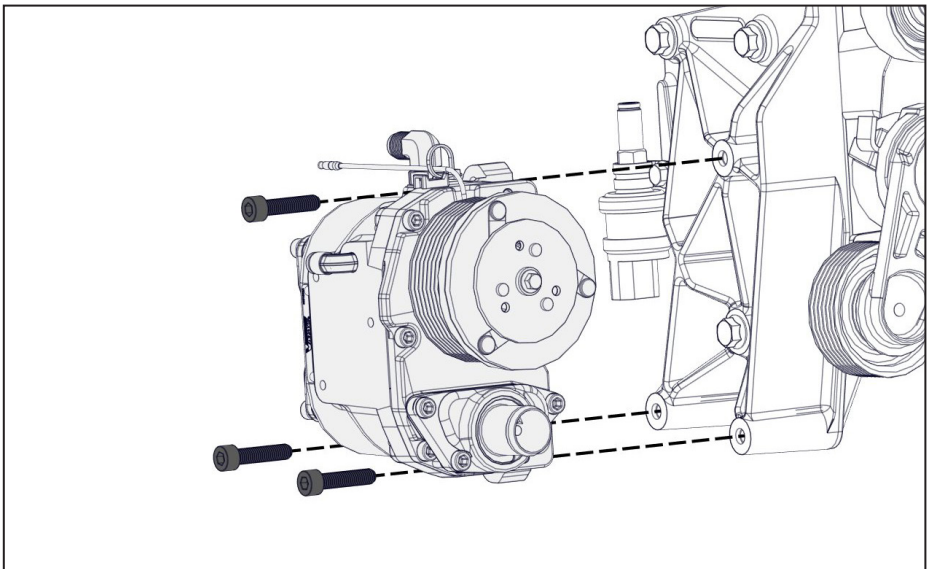

Figure 9 — Mount compressor
- Using (×3) M8 × 1.25 × 35 mm bolts, mount the compressor assembly, and pressure switch assembly (in the orientation shown) onto the main bracket (Figure 9).